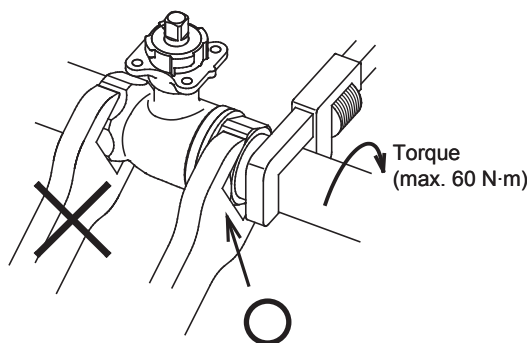

Figure 4. Connecting to pipes
- When connecting pipes, hold the valve body at the screw-in side by a wrench, then screw the pipe into the valve (refer to Fig. 4) .